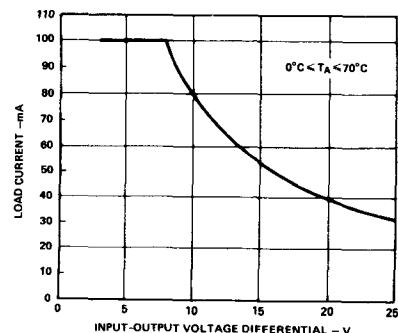

Figure 13. Maximum Load Current vs. Regulator Input-Output Voltage Differential
**Bridge Excitation (2B31):** The adjustable bridge excitation is specified to operate over a wide regulator input voltage range ( $+9.5\text{V}$  to  $+28\text{V}$ ). However, the maximum load current is a function of the regulator circuit input-output differential voltage, as shown in Figure 13. Voltage output is short circuit protected and its temperature coefficient is  $\pm 0.015\% \text{V}_{\text{OUT}}/^\circ\text{C}$  max ( $\pm 0.003\% / ^\circ\text{C}$  typ). Output temperature stability is directly dependent on a temperature coefficient of a reference and for higher stability requirements, a precision external reference may be used.